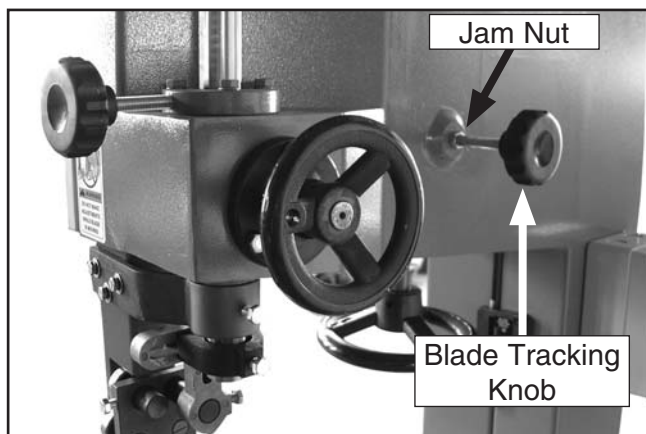

Figure 25. Blade tracking controls.
6. Using a $\frac{9}{16}$ " wrench, loosen the jam nut shown in **Figure 25**.